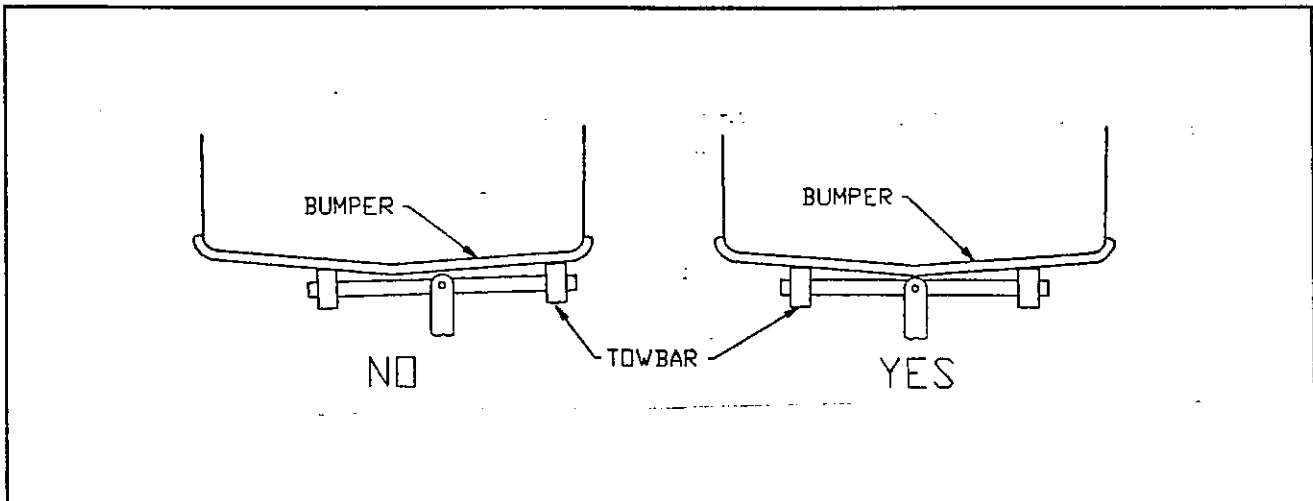

Figure 6-2 Towbar Center Examples
**6-5.2** Back your LOADOLL up in-line with the vehicle to be towed. Leave a 2 to 3 foot (24" - 36") gap between the towbar and the vehicle to be towed. Make certain the towbar is centered from side to side with the vehicle to be towed. (See FIG. 6-2)